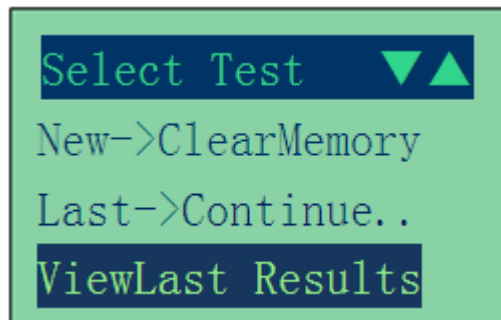

Figure 68
3. Pressing  key once will scroll down to the 'View Last Results' as shown below (Fig. 68)